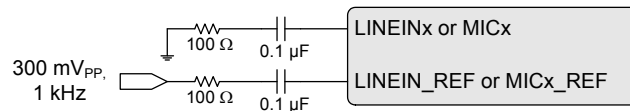

Figure 4. LINEIN_REF/MICx_REF Input Voltage Test Setup
- The PGA output clips if the voltage difference between the LINEINx/MICx and LINEIN_REF/MICx_REF signals exceeds the full-scale voltage specification. If the LINEIN_REF/MICx_REF signal level exceeds the specified maximum value, PGA linearity may be degraded and analog input performance may be adversely affected. Refer to Figure 4 below.